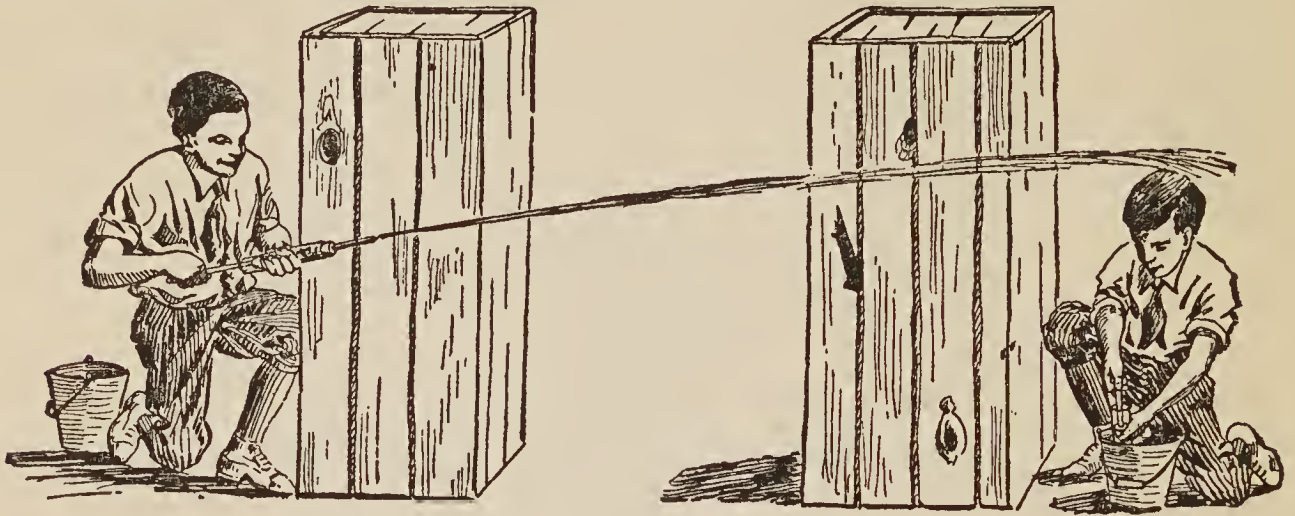

Fig. 61 A.—Machine Gun Battle.
Each player is behind a barricade which represents a trench (A), Fig. 61 and is armed with a syringe which here represents a machine gun. The rules about wounded and killed are the same as in Game No. 2. The winning side is the one which first kills all the enemy.